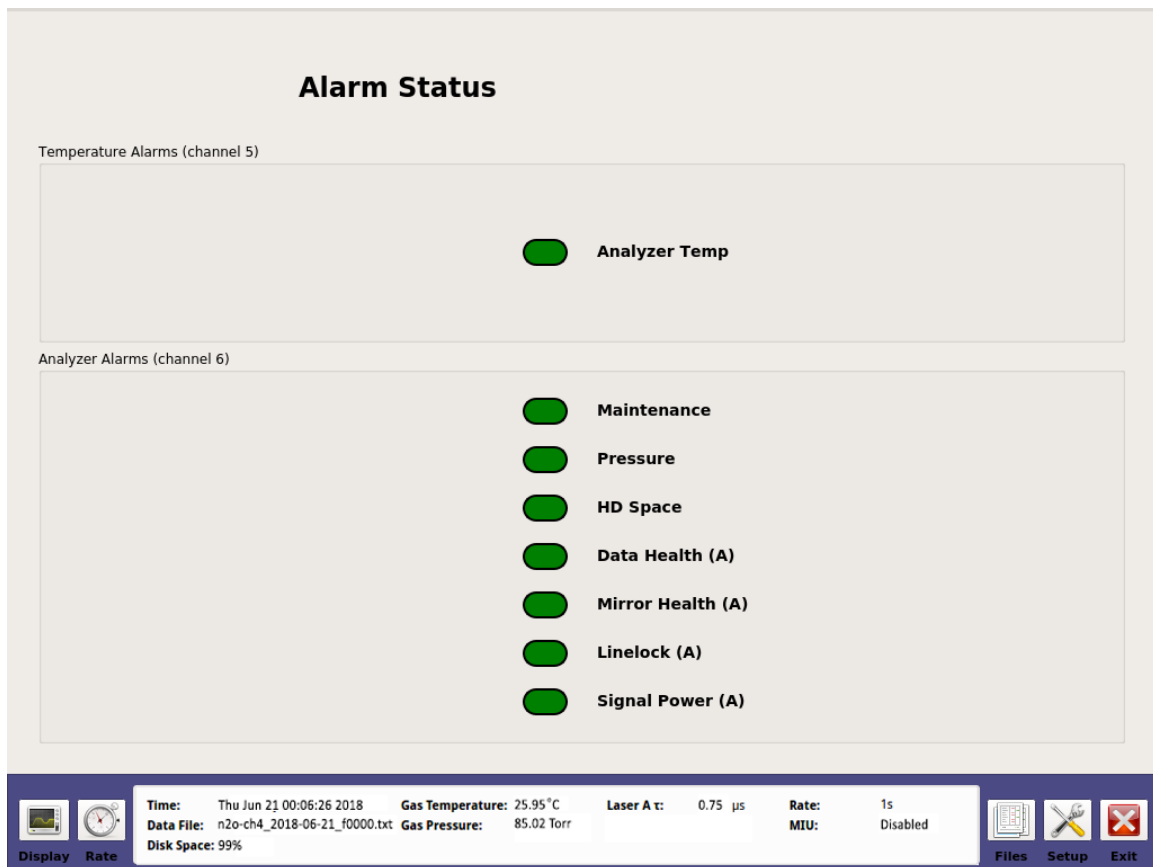

Figure 18: Alarm Status
- **Alarm Status Display** – shows the operational status of the analyzer. (Figure 18)
The *Alarm Status* display (Figure 18) shows the detailed operational status of the analyzer.
Figure 18 shows the *Alarm Status Display* with all parameters functioning properly.